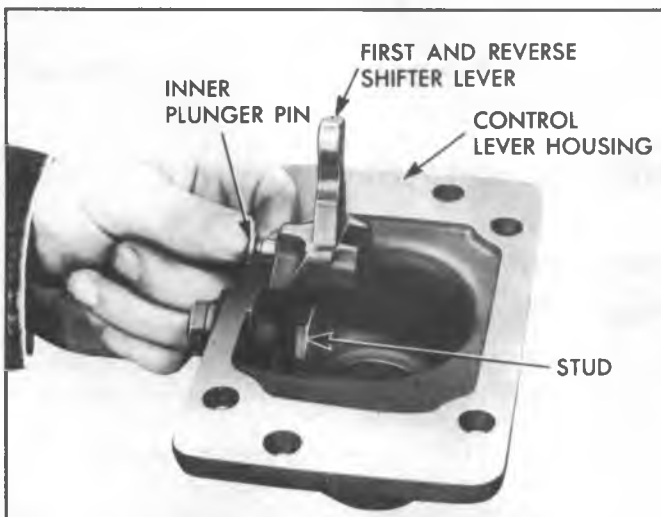

Fig. 7R--Removing Inner Plunger Pin
- Remove inner plunger pin from first-and-reverse shifter lever (fig. 7R) and, if control lever housing of first-and-reverse shifter lever is to be replaced, remove nut and
11. Position first-and-reverse shifter lever in control lever housing with boss next to housing and install stud from inside housing. Secure stud with nut and lock washer, then insert plunger pin in first-and-reverse shift lever (fig. 7R). Assemble new gasket on cover and install